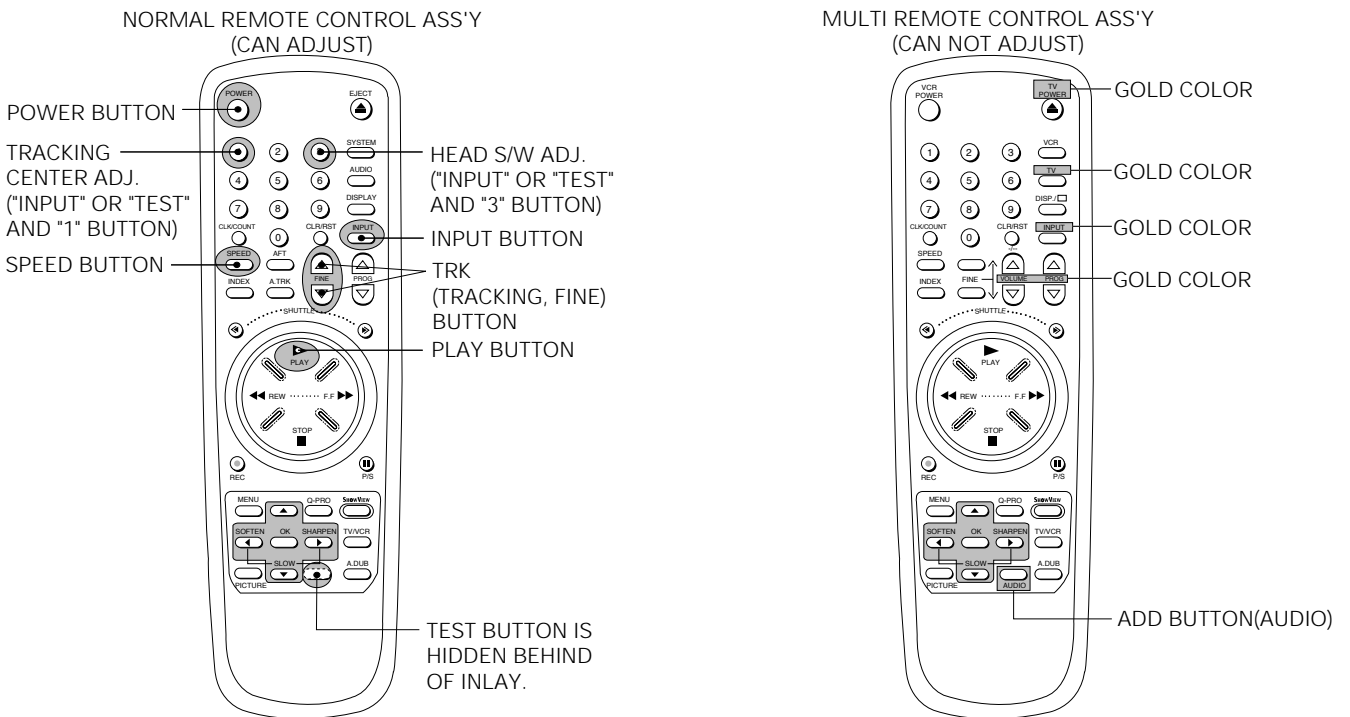

Fig. 5-3 Remote Control Ass'y for "IS" Chassis
- How to identify between normal remote control ass'y and multi remote control ass'y for X-7/X-8 chassis (See Fig. 5-3)